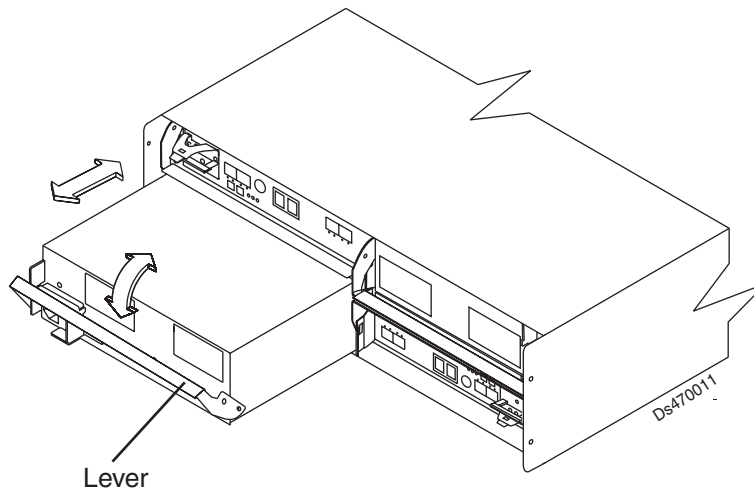

Figure 114. Replacing a power supply and fan unit
Use the following procedure to replace an ac power supply and fan unit. Figure 114 on page 168 illustrates removing and inserting a unit.
11. Slowly pull the lever away from the chassis to remove the power supply and fan unit, as shown in Figure 114 on page 168.
Use the following procedure to replace a dc power supply and fan unit. Figure 114 on page 168 illustrates removing and inserting a unit.